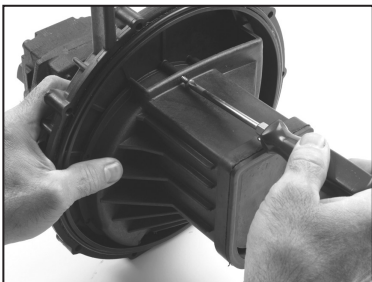
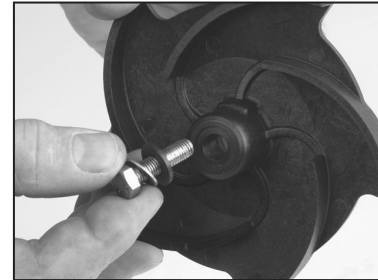

Fig. 2
Fig. 9
2. Remove diffuser (Ref. 10) by removing the three screws (Ref. Nos. 8, 9) with a Phillips screwdriver. Inspect parts for wear. (See Fig. 2.)
5. Install the impeller (Ref. 12) onto the hydraulic motor shaft (Ref. 26) using the bolt, washer and seal. Bolt seal must not be worn. Tighten the impeller bolt to 10 foot-pounds. (See Fig. 9.)
6. Install flapper (Ref. 6) into diffuser (Ref. 10). Secure the perimeter of the flapper to the diffuser using the (2) Phillips head screws (Ref. 7).
7. Install diffuser (Ref. 10) onto the pump flange (Ref. 22) with three Phillips head screws (Ref. Nos. 8, 9). (See Fig. 2.)